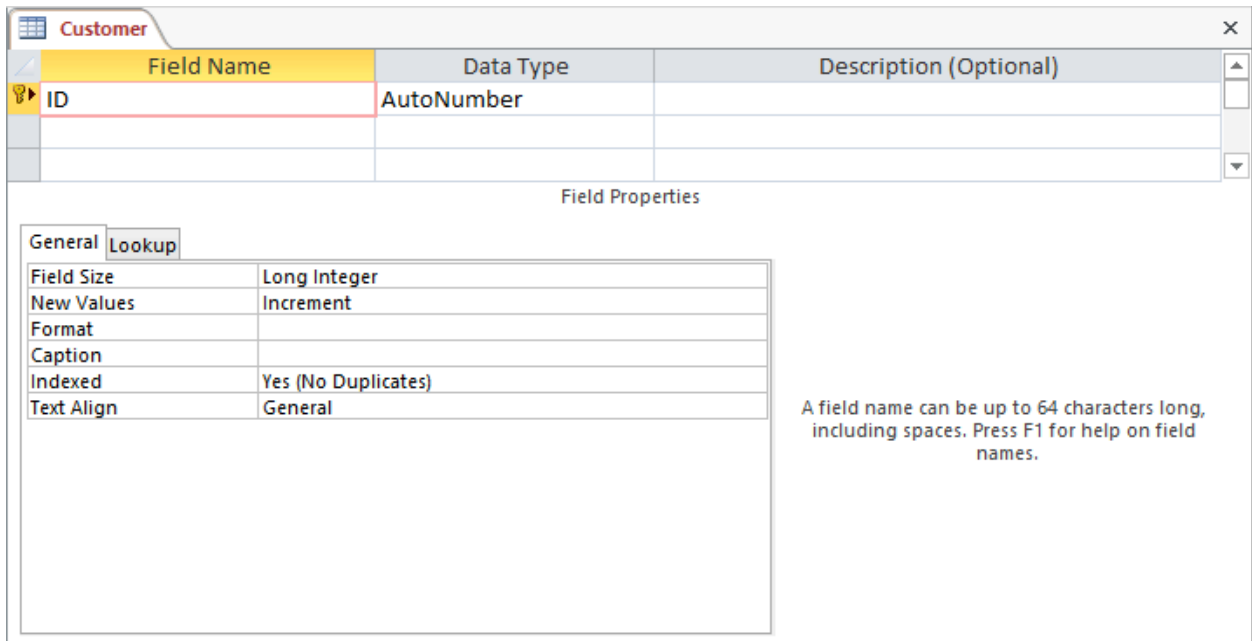

Figure 5: Design View for the Empty Customer Table
- The Design View window will appear in view pane (Figure 5).
You should still have the empty design view (Figure 5) open. The following instructions direct you in defining properties for the seven columns of the *Customer* table.